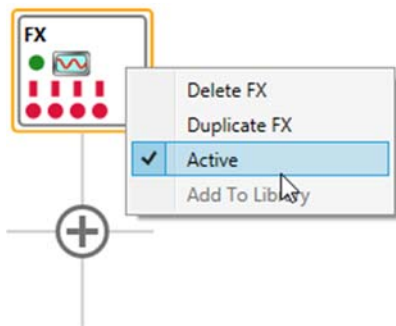

Figure 184
3. You can also set the Active mode by right-clicking on the Cue Grid header as shown in Figure 184.